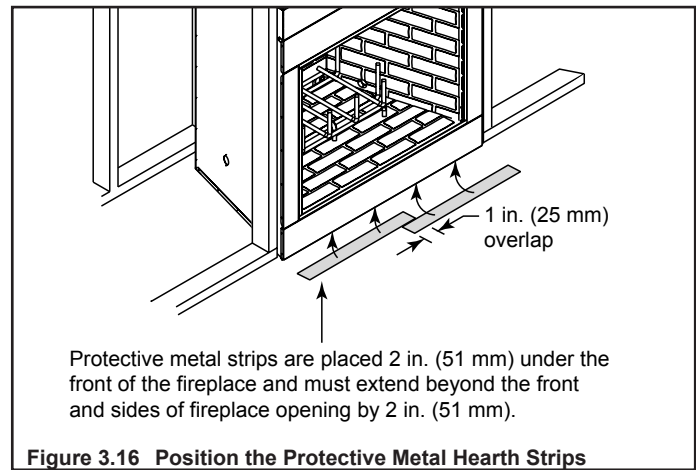

Figure 3.16 Position the Protective Metal Hearth Strips
- Metal strips must extend beyond the front and sides of the fireplace opening by at least 2 in. (51 mm), Figure 3.16).